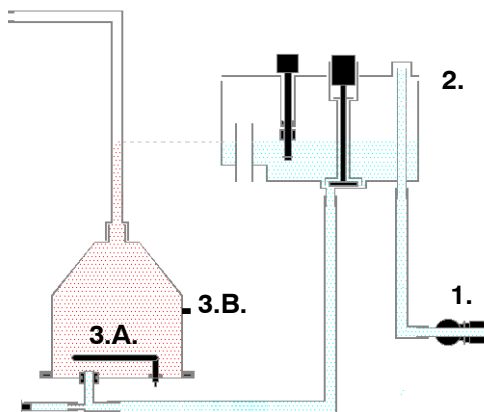

Fig. 1 The water dosing system
- The magnetic valve (fig.1 ,1.) is opened and fills water in the float tank with a speed of litres per minute, depending on the pressure.
After the system is completely filled with water, element (fig.1 ,3.A.) is switched on by means of a separate mechanical relay in the machine.
The temperature sensor (fig.1 ,3.B.), which is mounted on the outside of the boiler, measures the actual temperature of the water. This ensures that the water in the boiler is heated to the desired final temperature.